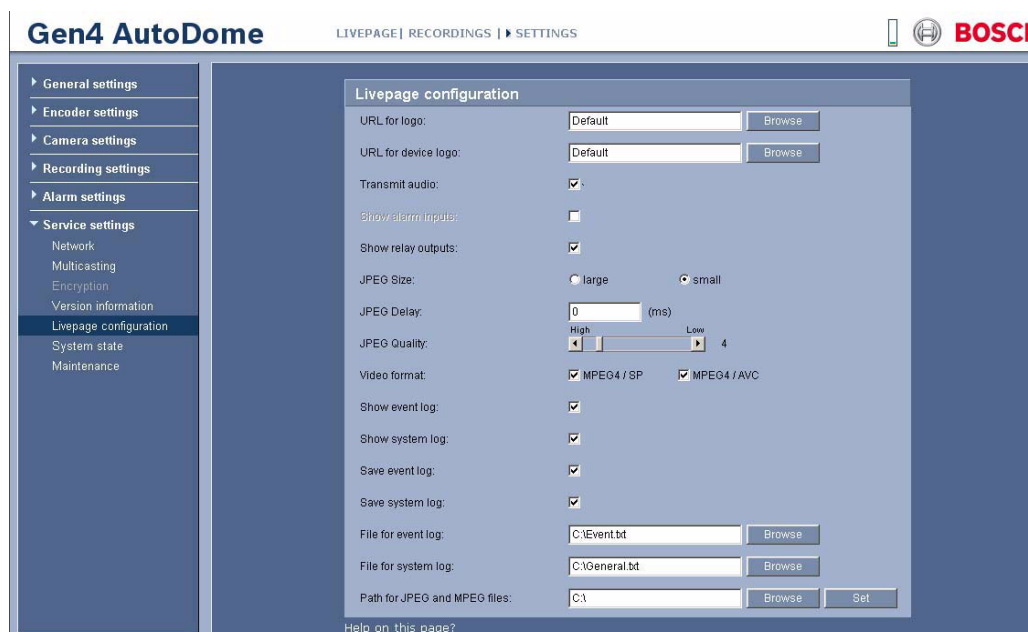

Figure 9.2 Livepage Configuration
2. Click Service Settings from the left pane, then click Livepage Configuration. The IP AutoDome displays the Livepage Configuration screen (see *Figure 9.2*).